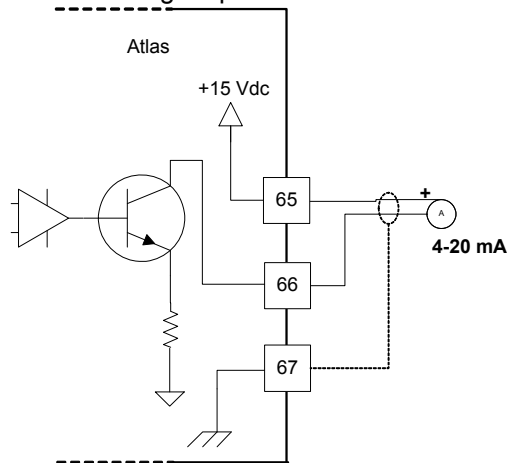

Figure 6-7. Wiring Example—Analog Output Interface to the SmartCore Board
- Refer to Figure 6-7 for analog output wiring.